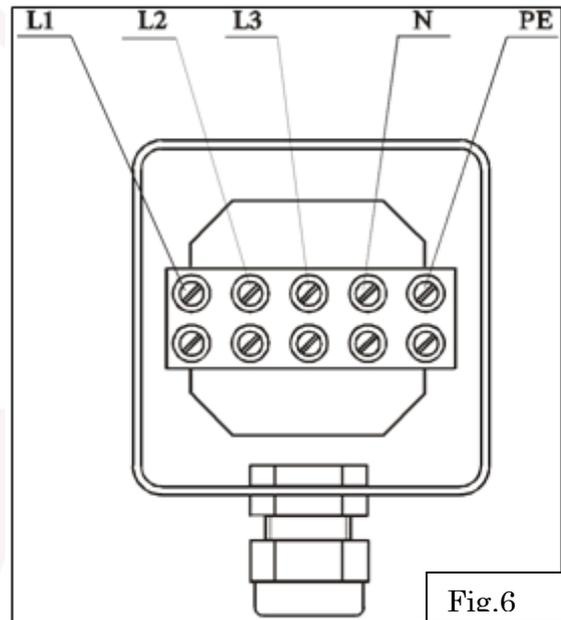

Fig.6
- Connect the supply cable to the respective terminals of the entry box (L1,L2,L3,N,PE)./fig. 6./
*Disassembly of knives /fig. 6/*